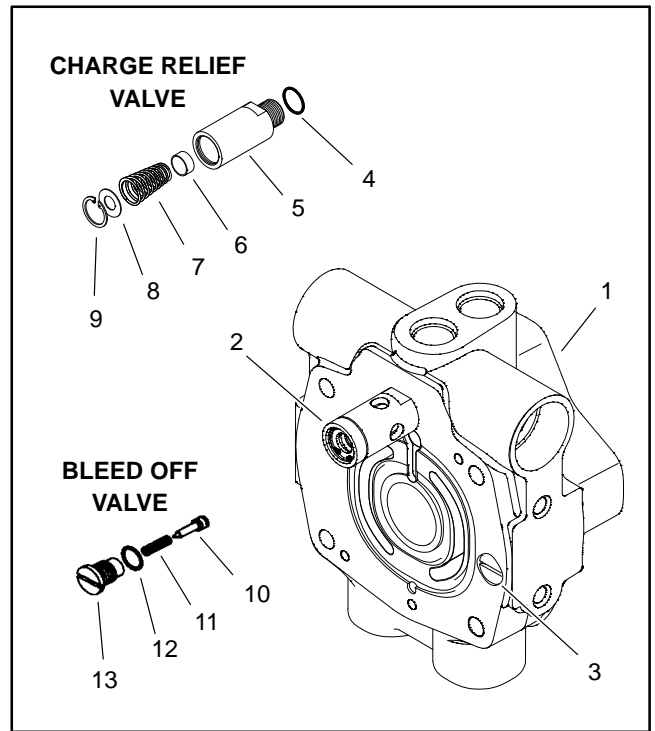

Figure 51
**NOTE:** The traction circuit charge relief valve and the bleed off valve for traction circuit cooling are attached to the piston pump back plate assembly (Fig. 51). The back plate assembly must be removed from the piston pump/hydrostat to service either the relief valve or the bleed off valve.